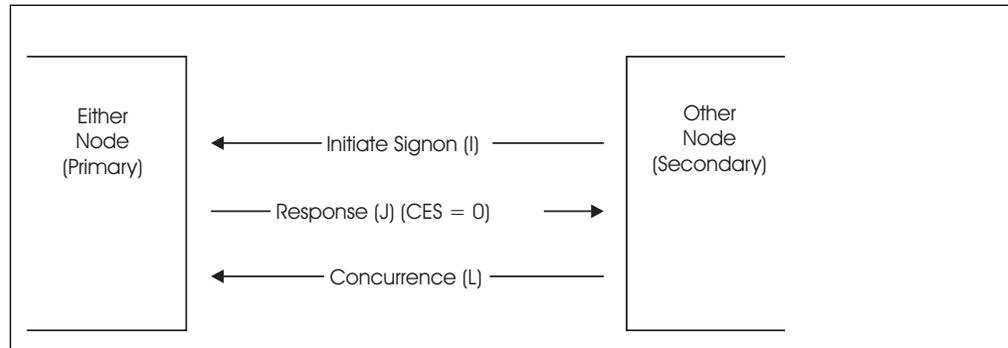

Figure 31. Secondary Trunk Connection
A secondary trunk is a line directly connecting two systems already directly connected when the secondary connection is made and the new line resistance is not less than the original. Because this does not represent a new connection, no CES is assigned and no distinction is made between low end and high end. In this case, the multi-trunk flag must be set on in the response (J) record. If the new line resistance is less than the original, this becomes the primary trunk with the CES not equal to zero. Figure 31 on page 173 illustrates secondary full trunk connection protocol.